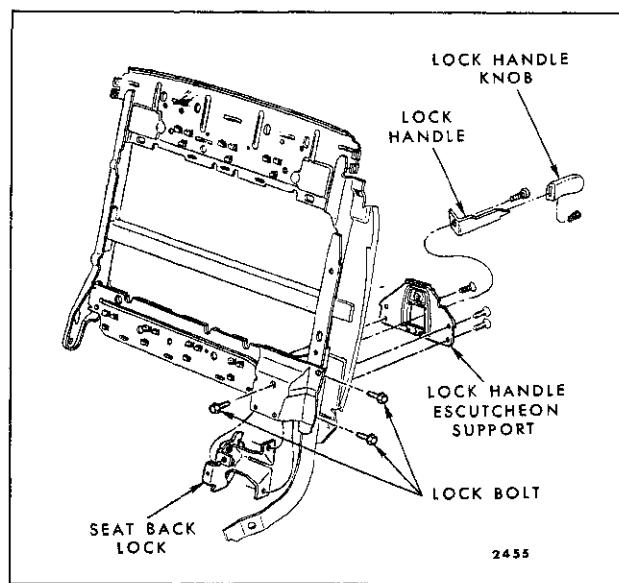

Fig. 15-21—Front Seat Back Lock - "A, B & X"
3. Remove seat back lock handle knob, lock handle escutcheon and lock handle (Fig. 15-21).
4. Remove hog rings securing seat back front and rear trim facings at bottom of seat back, then, turn up trim sufficiently to gain access to lock attaching bolts (Fig. 15-21).
5. Remove seat back lock attaching bolts (Fig. 15-21); then, remove lock assembly from bottom of seat back.